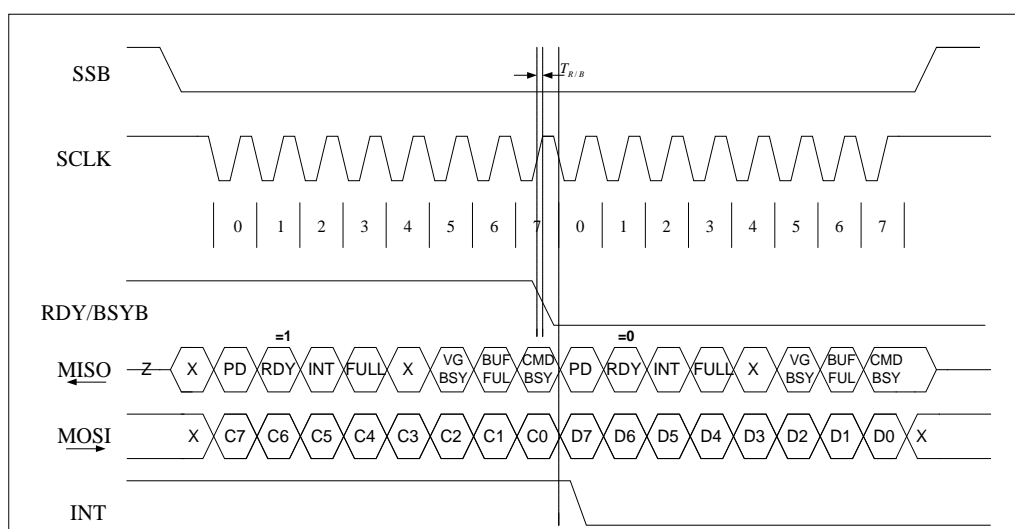

Figure 6-3 SPI Transaction Ignoring RDY/BSYB
The INT pin will go low to indicate (1) data overrun/overflow when sending data to the ISD15100; or (2) invalid data from ISD15100. See Figure 6-3 for the timing diagram.